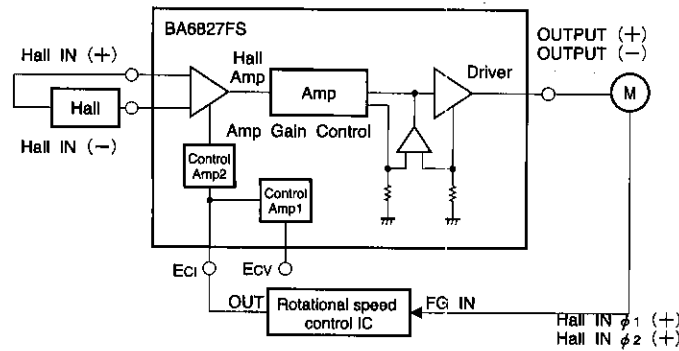

Fig.6
(1) The signal from the Hall device is amplified by the Hall amplifier and then supplied to the driver circuit. The driver gain, which is constant, is regulated by changing the Hall amplifier gain with the  $E_{ci}$  input current or the  $E_{cv}$  input voltage ( $E_{ci}$  and  $E_{cv}$  are output current control pins). The motor rotational speed is sensed by the FG, and the output from which is F/V-converted and supplied to the  $E_{ci}$  pin or F/V-converted and supplied to the  $E_{cv}$  pin as a feedback signal, so that a constant rotational speed is maintained as follows (Fig. 6) :